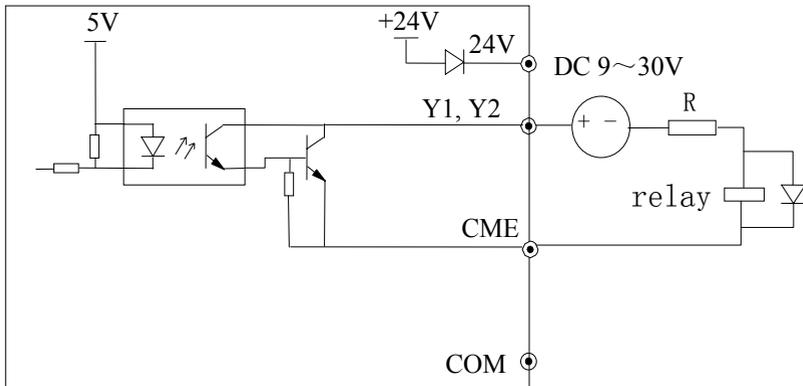

Fig 2-30 Wiring method 2 of multi-function output terminal
6) Multi-function output terminals Y1 and Y2 can also use the external 9~30V power supply and the wiring method is shown in Figure 2-30.